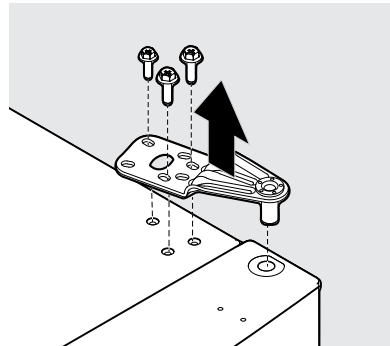

Figure 1
2. Remove the 3 screws from the top hinge using a Phillips™ screwdriver or 5/16" wrench. Set the hinge and screws aside (see Figure 1).